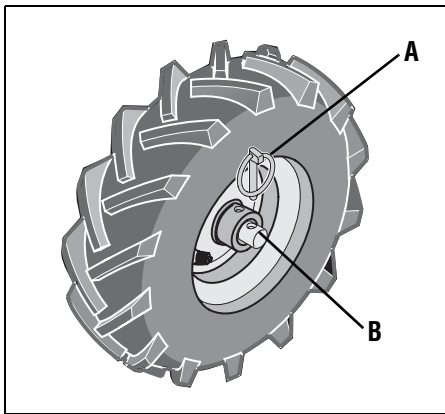

Figure 3-3: FREEWHEEL position.
5. **FOR FREEWHEEL MODE** (Figure 3-3): Slide the wheel inward and insert the Klick pin (A, Figure 3-3) only through the hole in the wheel shaft (B). Repeat for the other wheel and then remove the support from beneath the transmission.